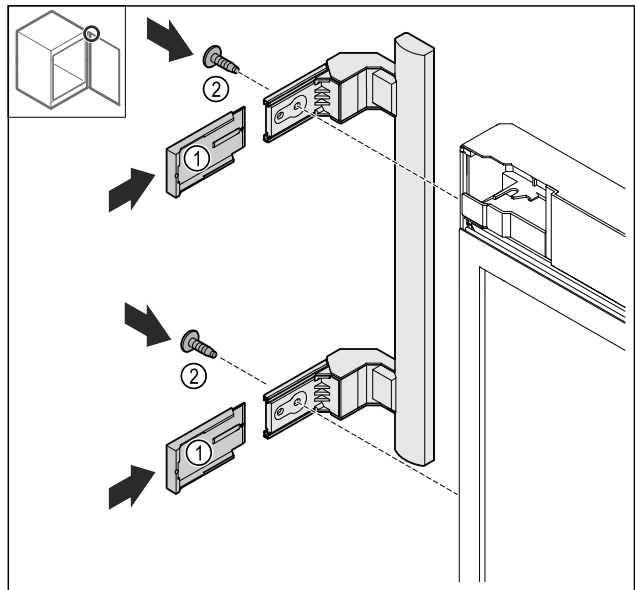

Fig. 27
- Push the covers Fig. 27 (1) on.